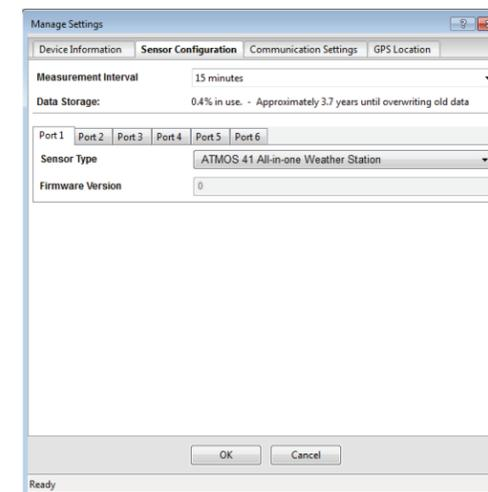

Figure 4 Sensor Configuration tab
- Navigate to the Sensor Configuration tab (Figure 4).